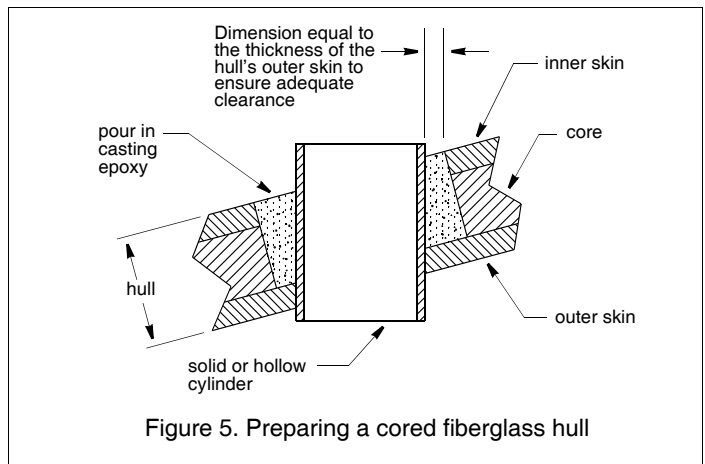

Figure 5. Preparing a cored fiberglass hull
1. Drill a 3mm or 1/8" pilot hole perpendicular to the waterline from inside the hull (see Figure 5). If there is a rib, strut, or other hull irregularity near the selected mounting location, drill from the outside. If the hole is drilled in the wrong location, drill a second hole in a better location. Apply masking tape to the outside of the hull over the incorrect hole and fill it with epoxy.